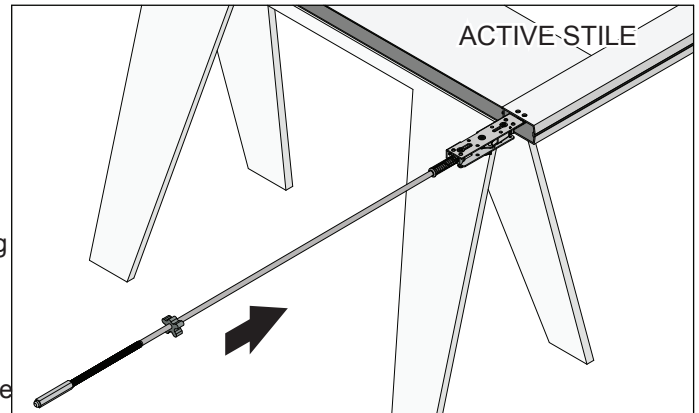

FIG. 7
1. Insert the panic device rod and case assembly into active stile. **(Fig. 7)**